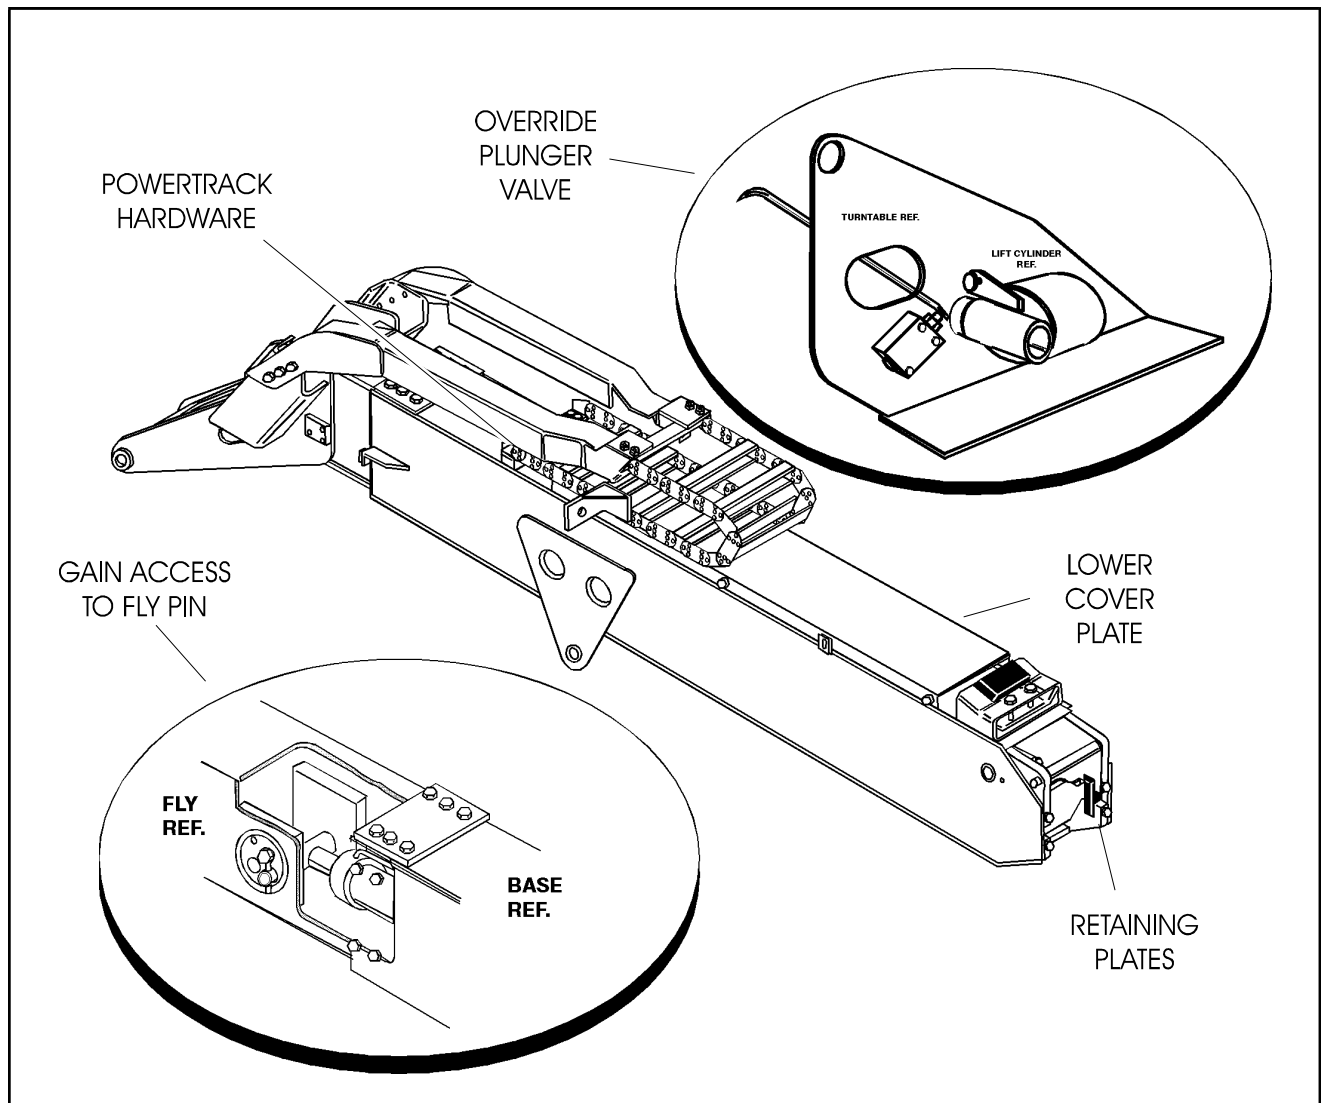

Figure 5-19. Tower Telescope Cylinder Removal
1. Place machine on a flat and level surface, with main boom in the horizontal position. Shut down engine and prop the boom See Figure 5-19., Tower Telescope Cylinder Removal.
1. With the boom positioned as in Figure 5-19., Tower Telescope Cylinder Removal, slide the telescope cylinder into the boom, aligning the cylinder port block end with slotted holes in Base Boom. Secure telescope cylinder with mounting hardware.